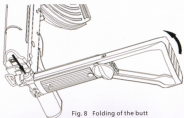

Fig. 8 Folding of the butt
3.6.1 When the stock is folded, press down the clamp of the stock first, then turn the stock rightward to the right side of the receiver (See Fig. 8)